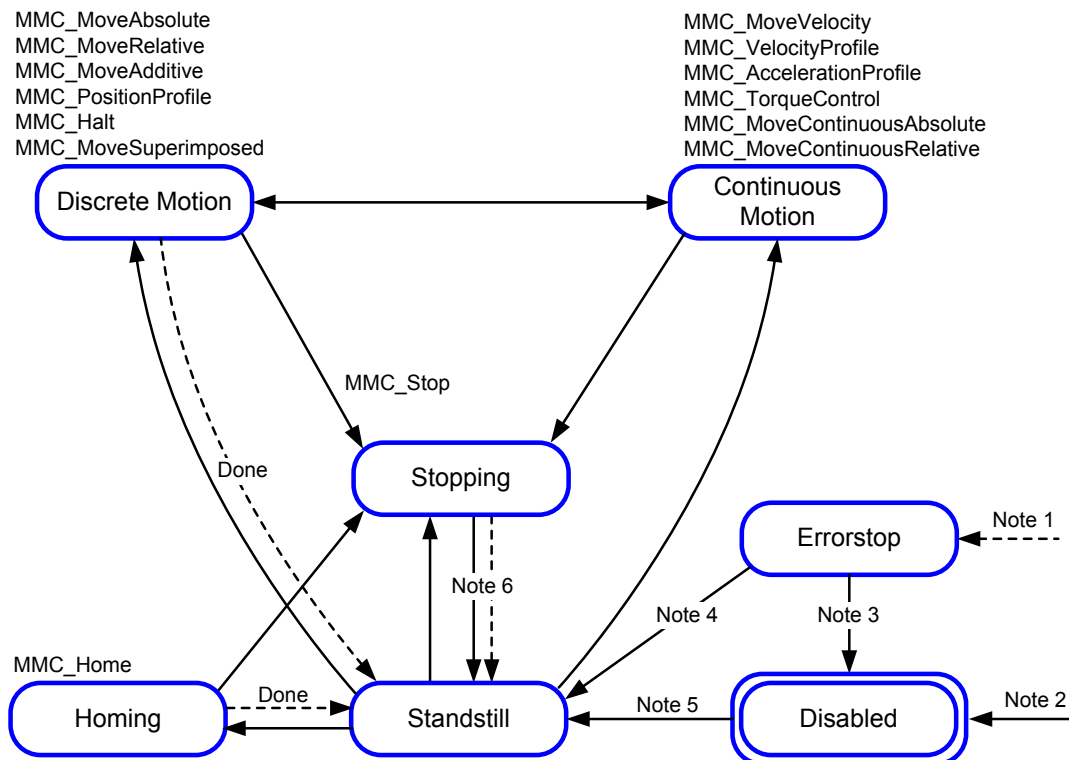

Figure 5-1: Single axis function block states
Note the following in **Figure 5-1**:
The axis is always in one of the defined states described in **Figure 5-1**. A change of state is reflected immediately when issuing the corresponding motion command. Any motion command that initiates a transition changes the state of the axis and consequently, modifies the way the current motion is computed. The above state diagram is an abstraction layer of the axis's real state, comparable to the image of the I/O points within a cyclic (PLC) program.
**Figure 5-1** is focused on a single axis. Arrows within the state diagram show the possible state transitions between the states. State transitions due to an issued command are shown by full arrows. Dashed arrows are used for state transitions that occur when a command of an axis has terminated or a system related transition (like error related). The motion commands, which transit the axis to the corresponding motion state, are listed above the states. These motion commands may also be issued when the axis is already in the according motion state.